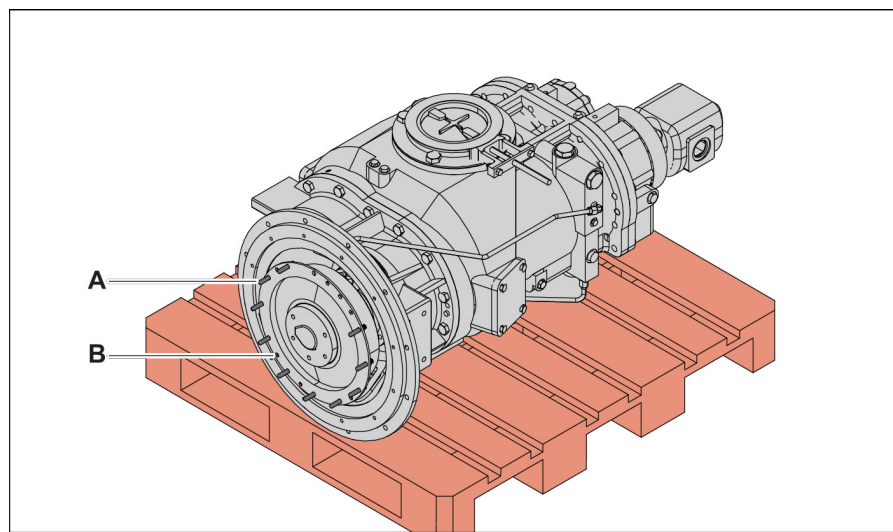

Figure 12
18. Remove the 10 inner ring shoulder head cap screws (Figure 12, item A) in a circular motion with an 8-millimeter hex key. Five of these cap screws can be necessary to remove the coupling.
NOTE: If this action does not free the coupling, use the five cap screws (Figure 12, item B) and insert into the push off threads. Tighten the cap screws in a crisscross pattern until the coupling is loose and can be removed.
27. Insert the cap screws with the washers that were removed during removal (Figure 12).